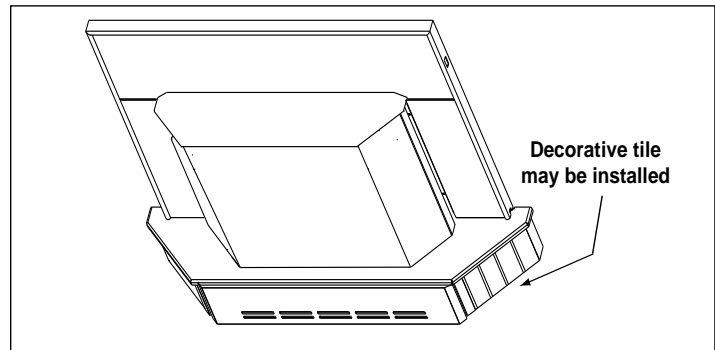

Figure 21.3
3. Measure front and side trims to required height to cover scissors and mark pieces for cutting. Cut excess material from **top** of trim's edge, not bottom. This edge will be sharp; wear gloves to prevent injury to your hands. **Figure 21.3.**
NOTE: 3/8 inch (9.5mm) thick tile or like material can be cut to size and fit under lip of top trim edge for a decorative touch. **Figure 21.3.**